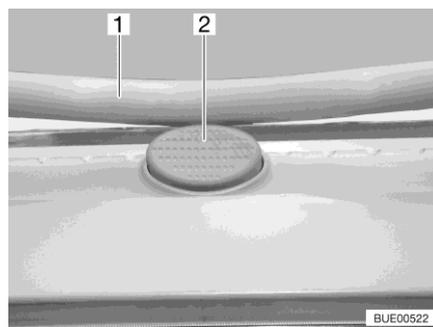

Fig. 33 Safety knob (hinged skylight)
- Press the safety knob (Fig. 33,2) and pull the bar (Fig. 33,1) down with both hands.
- Push the bar upwards with both hands until it is above the safety knob (Fig. 33,2).